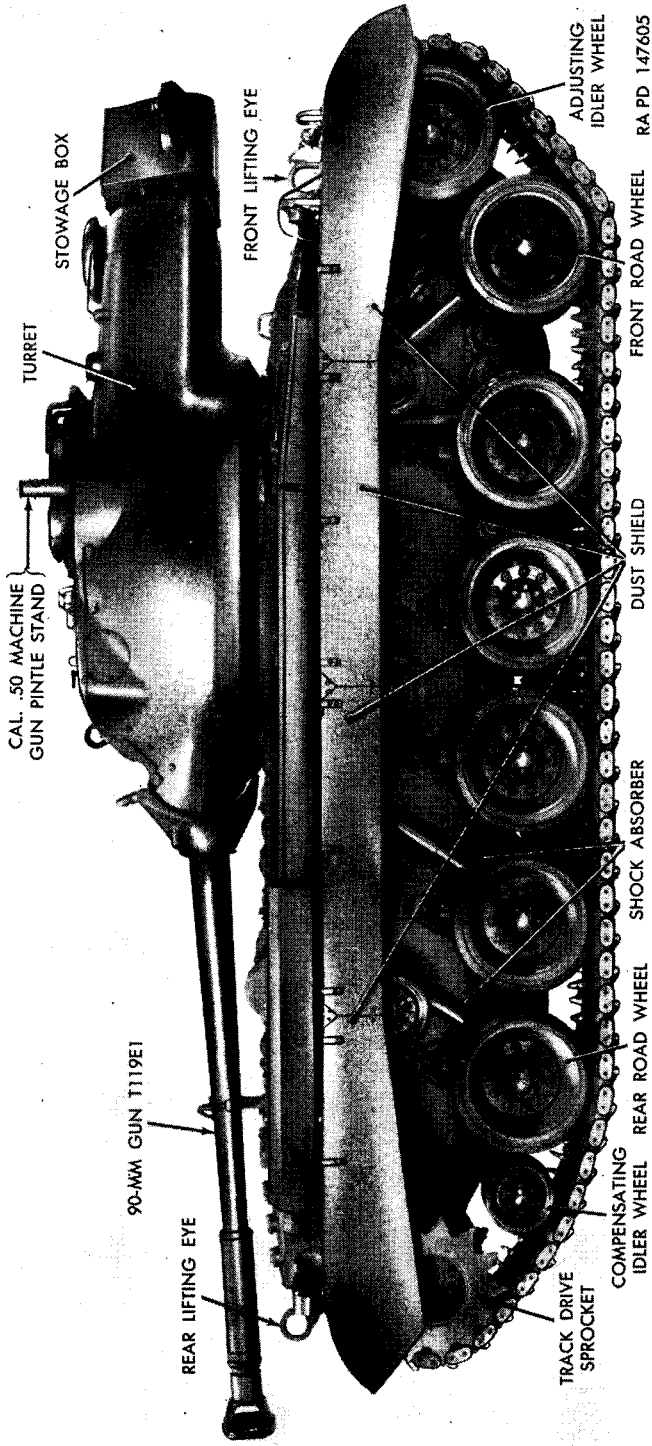

Figure 5. 90-mm gun tank M47—right side view.
a. GENERAL. The 90-mm gun tank M47 is a heavily-armored, full-track-laying, low-silhouette, combat vehicle, mounting a 90-mm gun T119E1 (figs. 1 through 8). One cal. .30 machine gun M1919A4 is installed in a flexible ball mount in the bow (fig. 13) and a cal. .50 machine gun M2, HB or a cal. .30 machine gun is mounted coaxially with the 90-mm gun in the combination gun mount (fig. 39). One cal. .50 machine gun M2, HB with a pintle mount is installed in a pintle stand on the turret roof (fig. 5). This vehicle carries a crew of five—vehicle commander, driver, assistant driver (also, cal. .30 gunner), loader, and gunner.